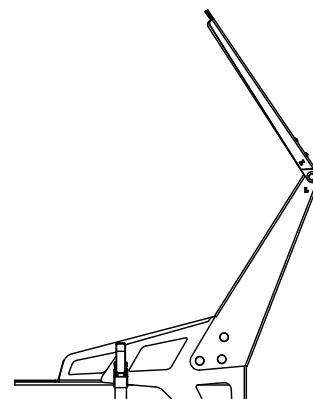

FIG. 8b
Note: Hardware should be finger tightened. For ease of assembly when connecting the Support Brace (L), we recommend tilting the Left and Right Braces up. [FIG 8b].